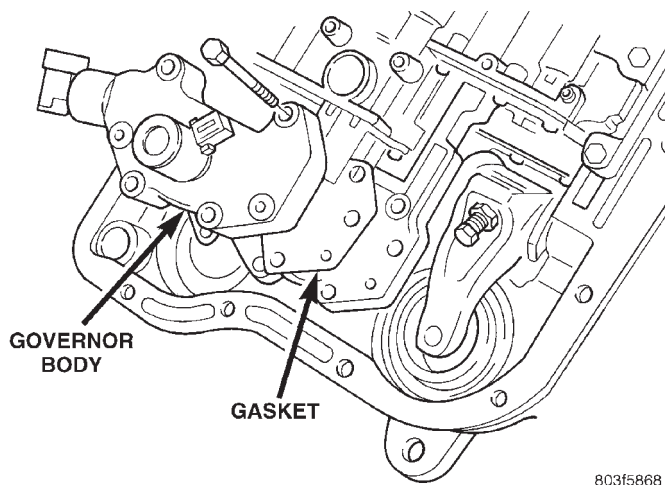
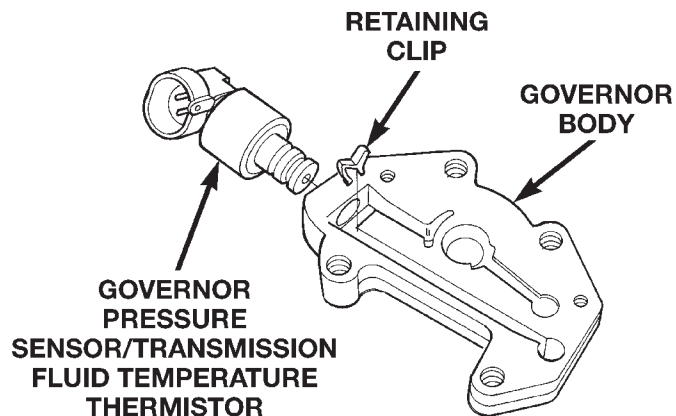

Fig. 41 Governor Body And Gasket
Fig. 42 Governor Pressure Sensor
(4) Remove retainer plate, governor body and gasket from transfer plate (Fig. 41).
(5) Disconnect wires from governor pressure sensor, if not done previously.
(6) Remove governor pressure sensor from governor body. Sensor is retained in body with M-shaped spring clip (Fig. 42). Remove clip with small pointed tool and slide sensor out of body.